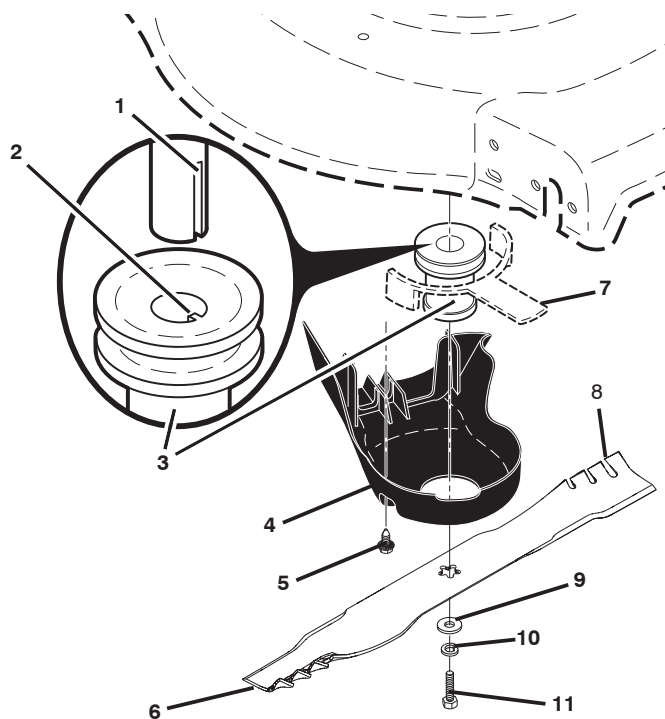

Figure 17
4. Remove blade bolt by turning counter-clockwise (Figure 17).
1. Position the blade adapter on the engine crankshaft. Be sure key in adapter and crankshaft keyway are aligned; and that the drive belt is inside the tabs of the belt retainer (Figure 17).